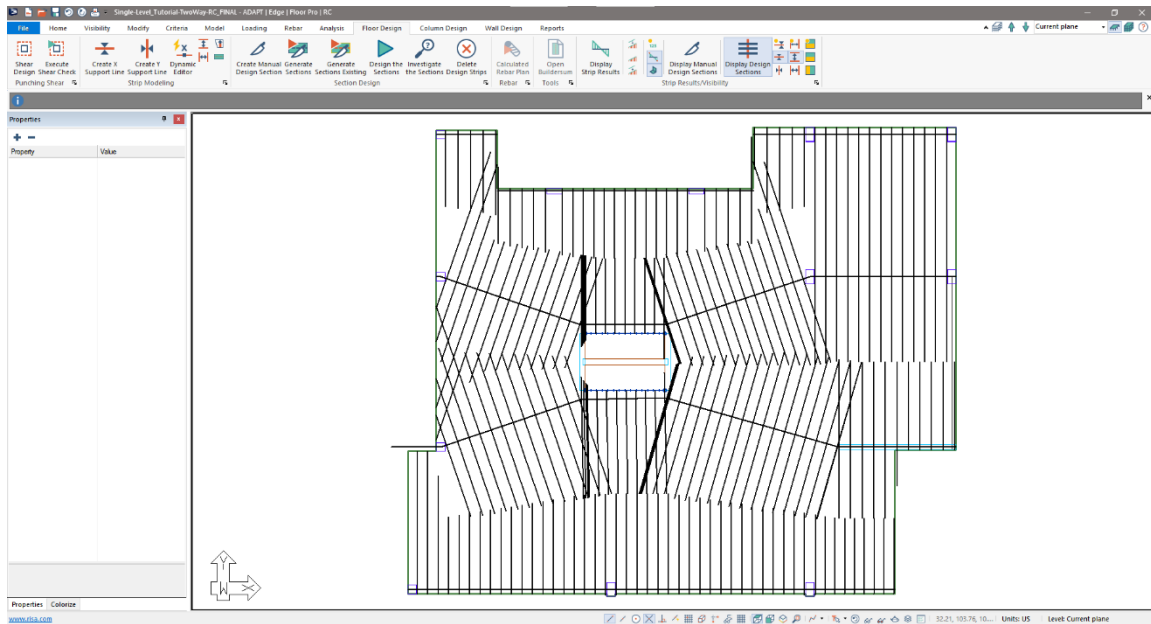

Figure 6-17
- Go to *Floor Design* → *Section Design* and click on the *Generate Sections*  icon. When the process is completed the user should see design sections cut as shown in **FIGURE 6-17**.